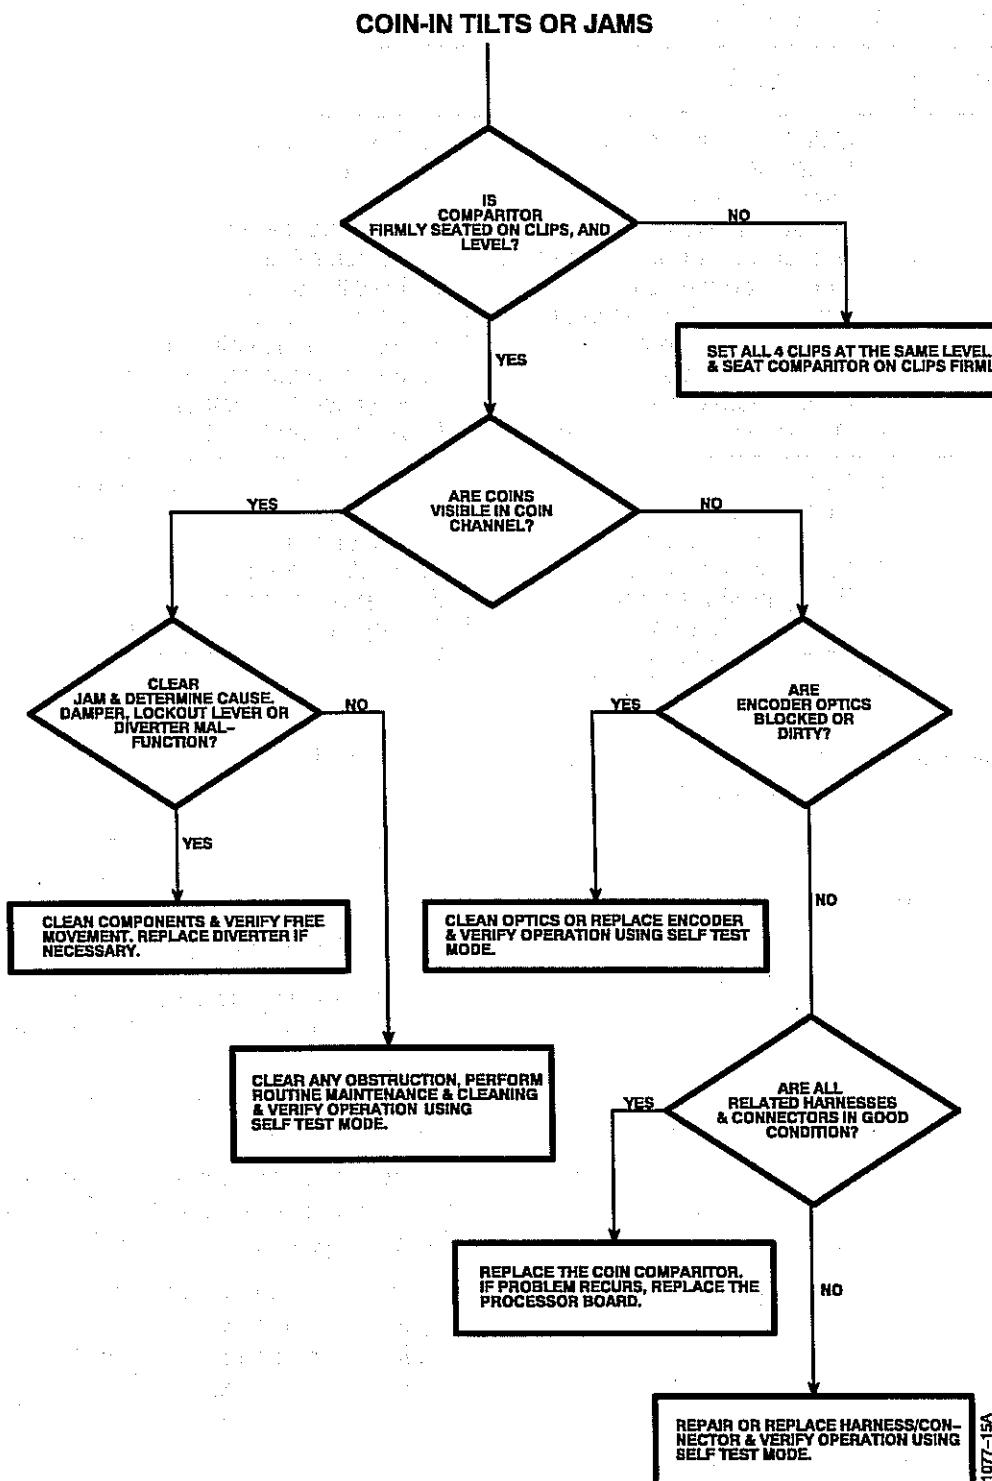

Figure 5-15. Resolving Coin-In Tilts.
1. Consult the troubleshooting flow chart in Figure 5-15, Resolving Coin-In Tilts.
Follow the procedures listed below for each coin-in tilt message. The tilt messages are discussed in the same order as shown in Figure 5-15, Resolving Coin-In Tilts or Jams.
A flow chart summarizing the procedures for correcting a coin-in tilt or jam is shown in Figure 5-15. Refer to the following list to resolve a coin-in time-out tilt.